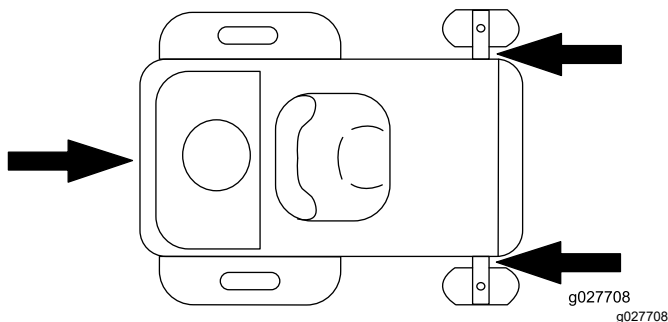

Figure 26
- Securely fasten the machine to the trailer or truck with straps, chains, cable, or ropes. Only use the designated tie-down locations on the mower as shown in Figure 26. Use these locations even when transporting the mower with an attached accessory. Using non-designated locations may cause damage to the mower and/or attachment.